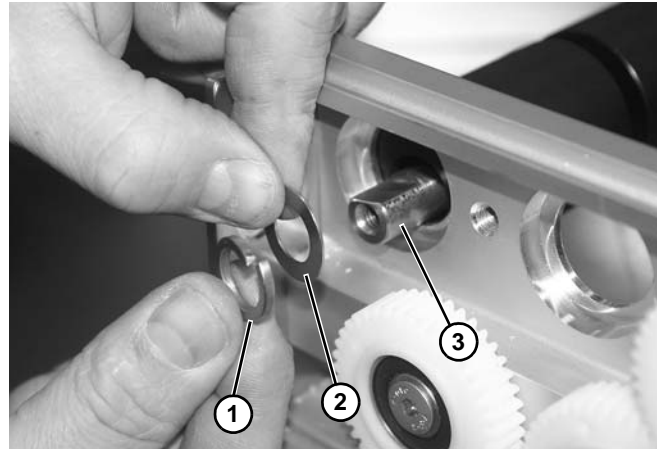

Figure 123
14. For center rollers: Remove lockwasher (**Figure 123, item 1**) and washer (**Figure 123, item 2**) from end of roller shaft (**Figure 123, item 3**).